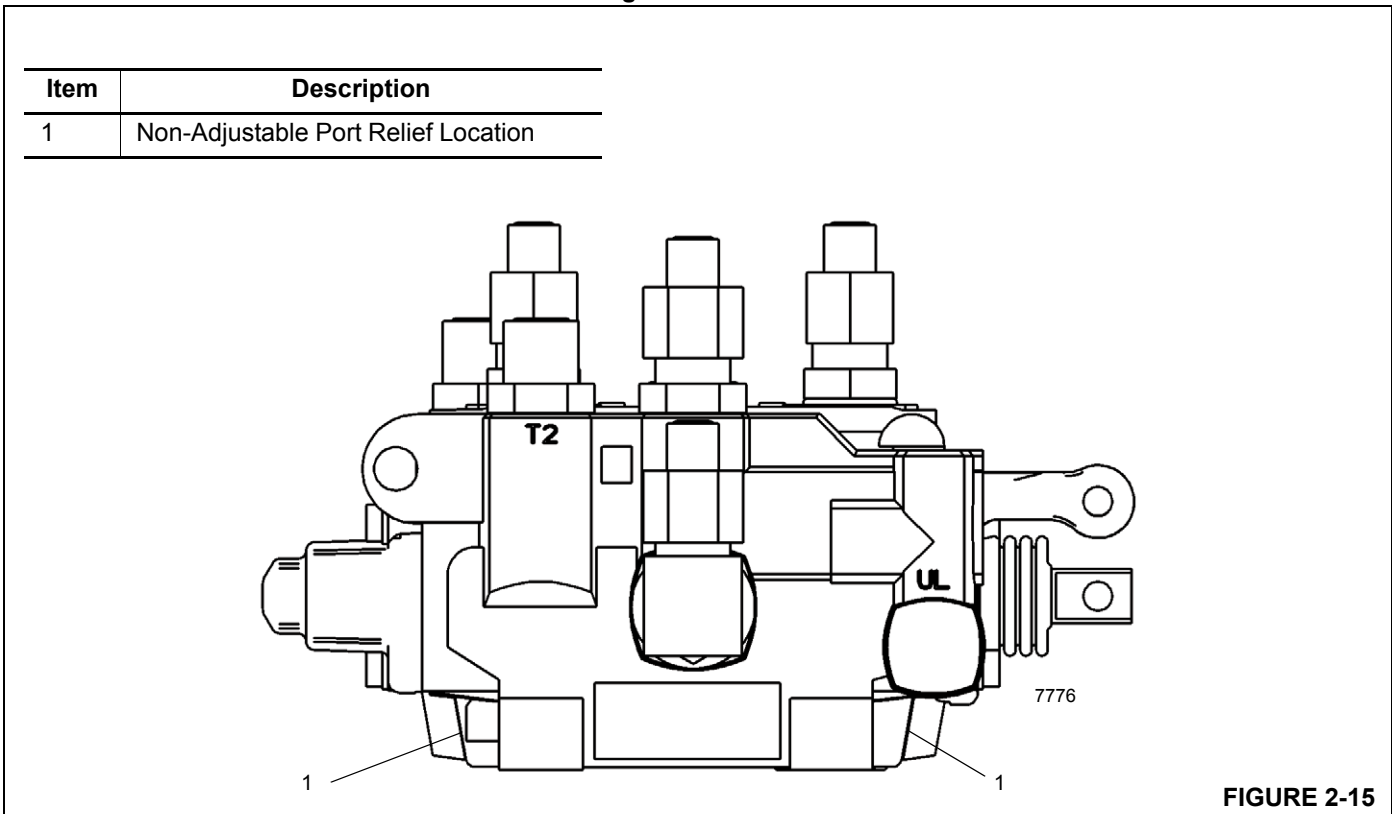

FIGURE 2-15
1. With the engine off, and the counterweight pinned, disconnect the extend hose from port "A" of the Counterweight Removal Directional Control Valve for both left and right removal cylinders and cap and plug the adapter in the cylinder port (see Figure 2-15).
3. Start engine and idle. Attempt to lower left counterweight cylinder. Gauge should read 1000 psi  $\pm$ 100. If not, replace the relief valve as it is non-adjustable (see Figure 2-15).
7. Start engine and idle. Attempt to raise the left counterweight cylinder. Gauge should read 1800 psi  $\pm$ 100. If not, replace the relief valve as they are non-adjustable (see Figure 2-15).